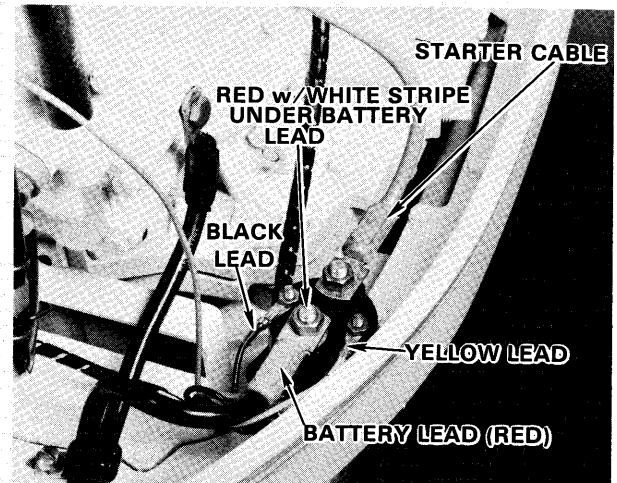

Figure 1—Removing Leads from Starter Relay
There are two types of starter relays used. Refer to figure 1 to determine which starter relay is being serviced.
- B. Remove nut securing "POS" battery lead wire and red and white striped lead wire to forward side post of starter relay and remove both leads as shown in figure 1.